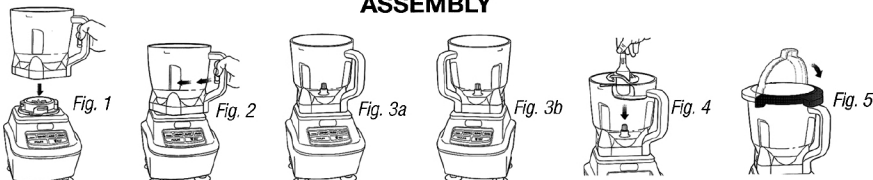

Fig. 6
- Select the speed that best suits your needs. (Fig. 6)
- To release the motor base from the counter or table top, place your hands underneath both sides of the motor base and gently pull the unit up and towards you. (Fig. 6)